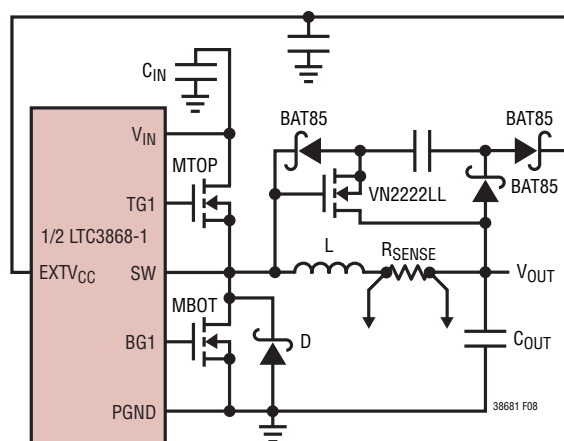

Figure 8. Capacitive Charge Pump for $EXTV_{CC}$
4. $EXTV_{CC}$ Connected to an Output-Derived Boost Network. For 3.3V and other low voltage regulators, efficiency gains can still be realized by connecting $EXTV_{CC}$ to an output-derived voltage that has been boosted to greater than 4.7V. This can be done with the capacitive charge pump shown in Figure 8. Ensure that $EXTV_{CC} < V_{IN}$.